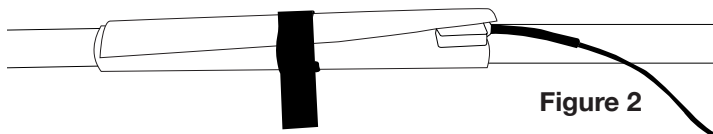

Figure 2
6. *Wrap the PVC Heating Blanket around the conduit until snug and secure the blanket with Velcro strap. The blanket should overlap the thermostat housing. (FIGURE 2)*